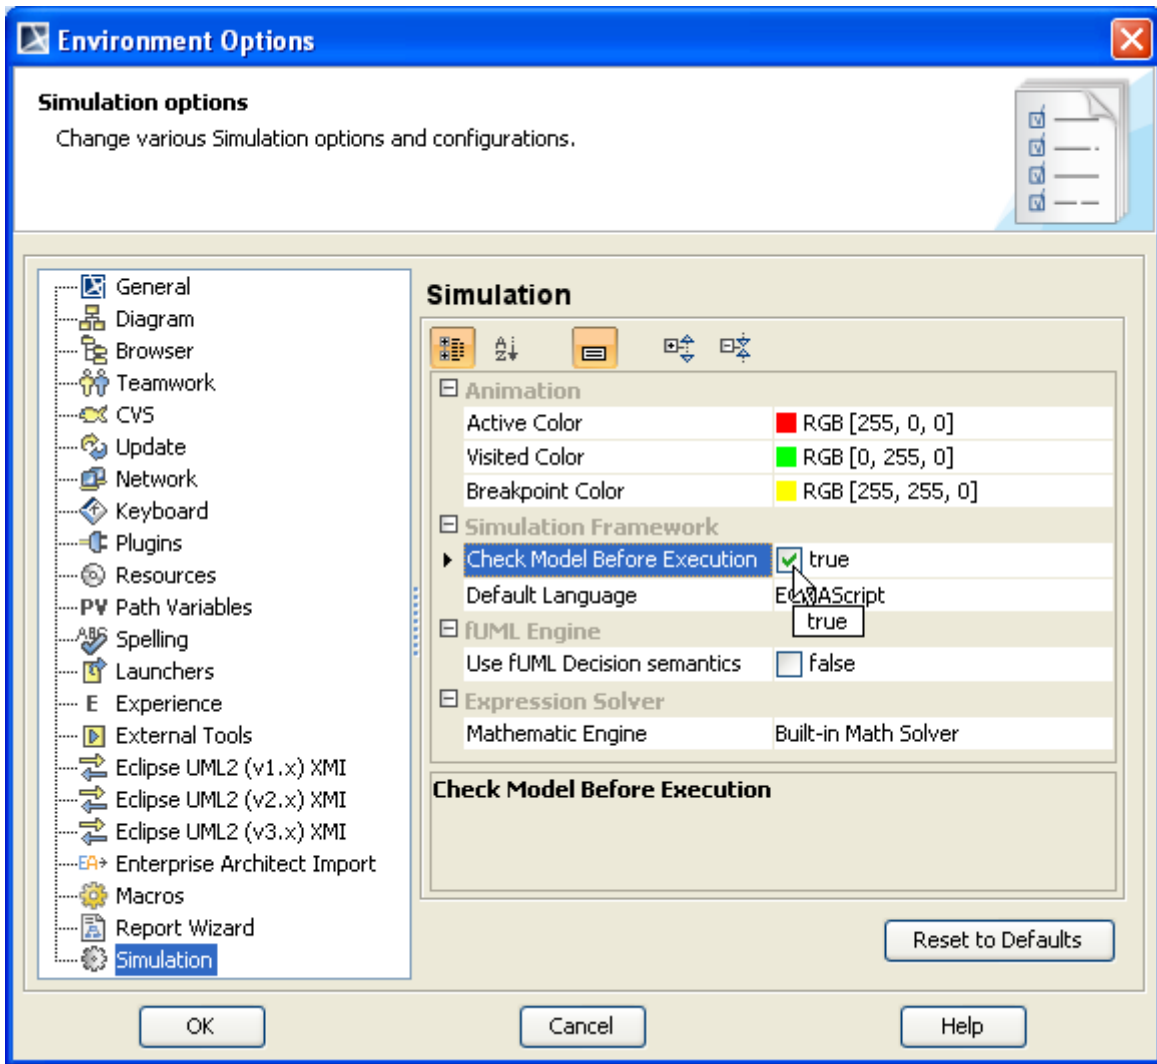

Figure 37 -- Checking Model before Execution in the Environment Options Dialog
1. Click **Options > Environment** on the MagicDraw main menu to open the **Environment Options** dialog (Figure 37).